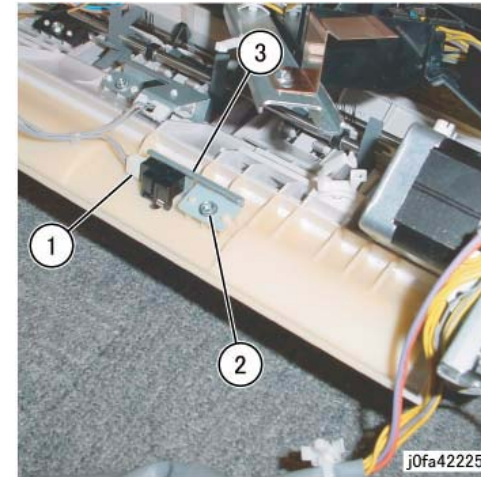

Figure 3 Removing the Finisher Entrance Sensor Assembly (j0fa42225)
6. Remove the Finisher Entrance Sensor Assembly. (Figure 3)